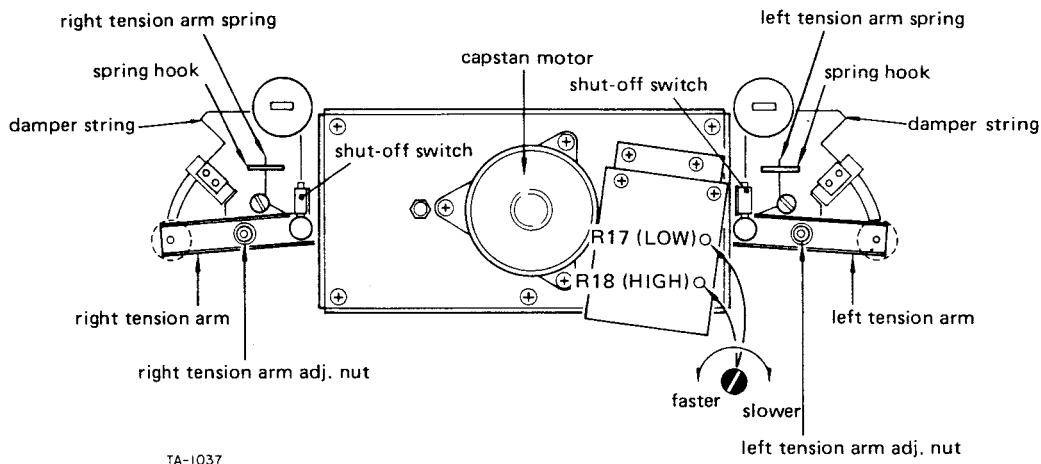

Fig. 2-8 Tension arm height, tension arm force, damper function, and tape speed
3. Stop left (right) guide roller's rotation by hand. Adjust by turning the left (right) tension arm adjusting nut (refer Fig. 2-8) so that the tape moves in the center of the guide roller.
- Play the tape. Adjust R18 (see Fig. 2-8) for a reading of 3,000 Hz ±5Hz.